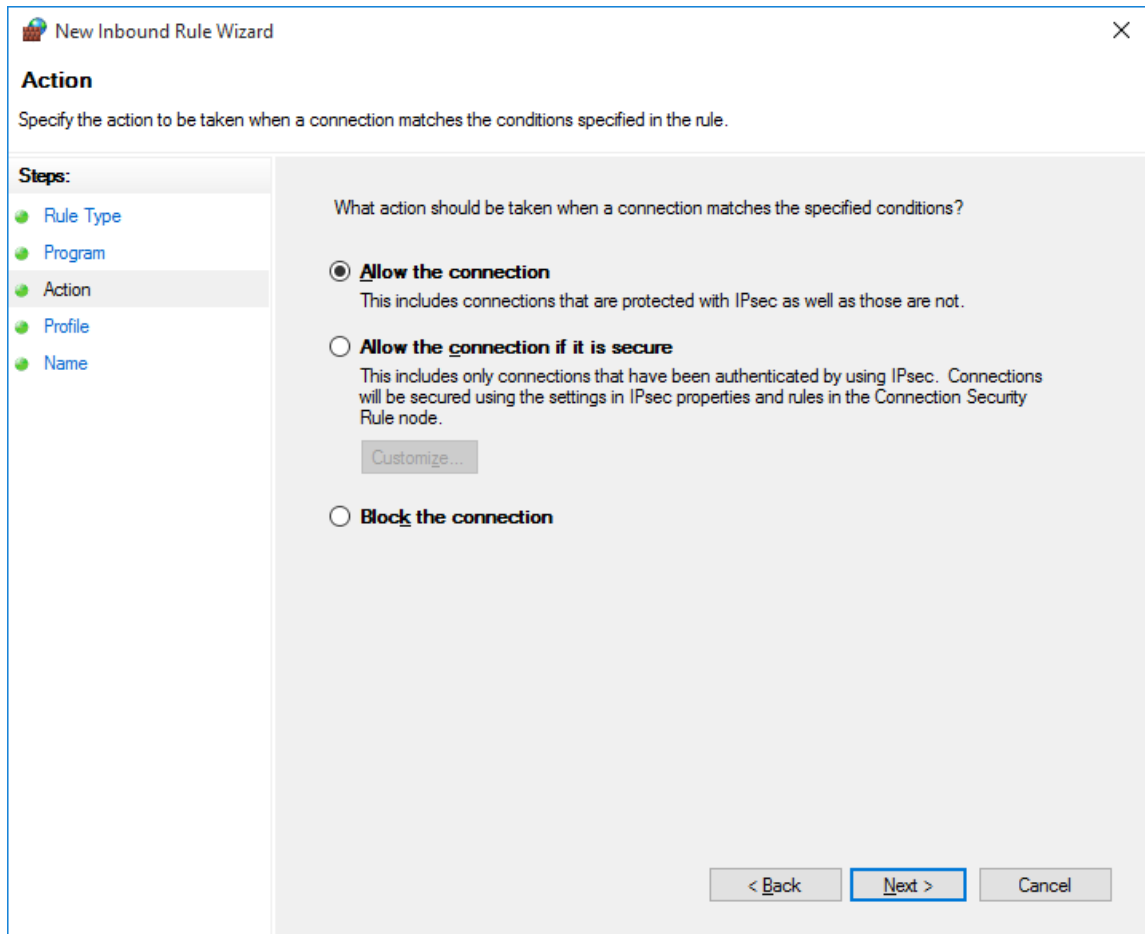

Figure 2-69. Allowing the Connection
3. On the Action page of the New Inbound Rule Wizard, click **Allow the Connection**. Then click **Next**. This is the same as *Figure 2-69*.